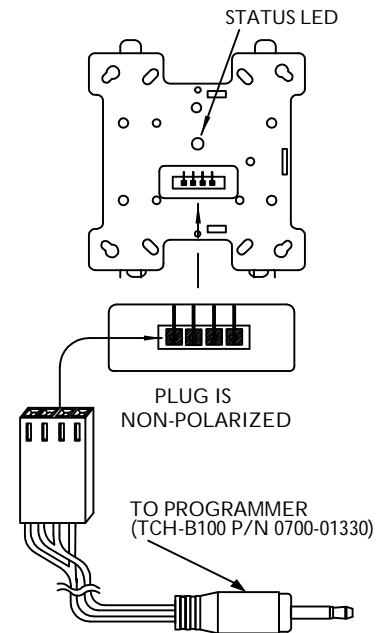

FIGURE 1. DIMM PROGRAMMING
- 3) The device address must be set before the cover plate is attached, see Fig. 1.